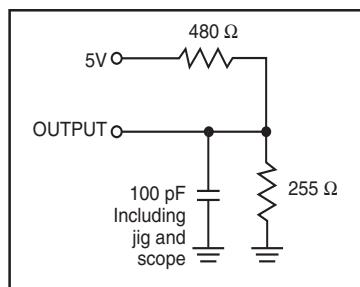

Figure 1.
- Test conditions assume signal transition times of 5 ns or less, timing reference levels of 1.5V, input pulse levels of 0 to 3.0V and output loading specified in Figure 1.
Output Load	See Figures 1 and 2